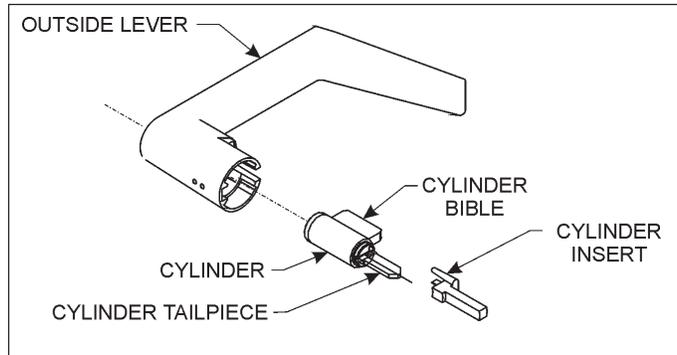

Figure 18
1. Refer to Figure 18. Make sure the cylinder tailpiece is aligned in the same direction as the cylinder bible. Slide the cylinder all the way into the lever.